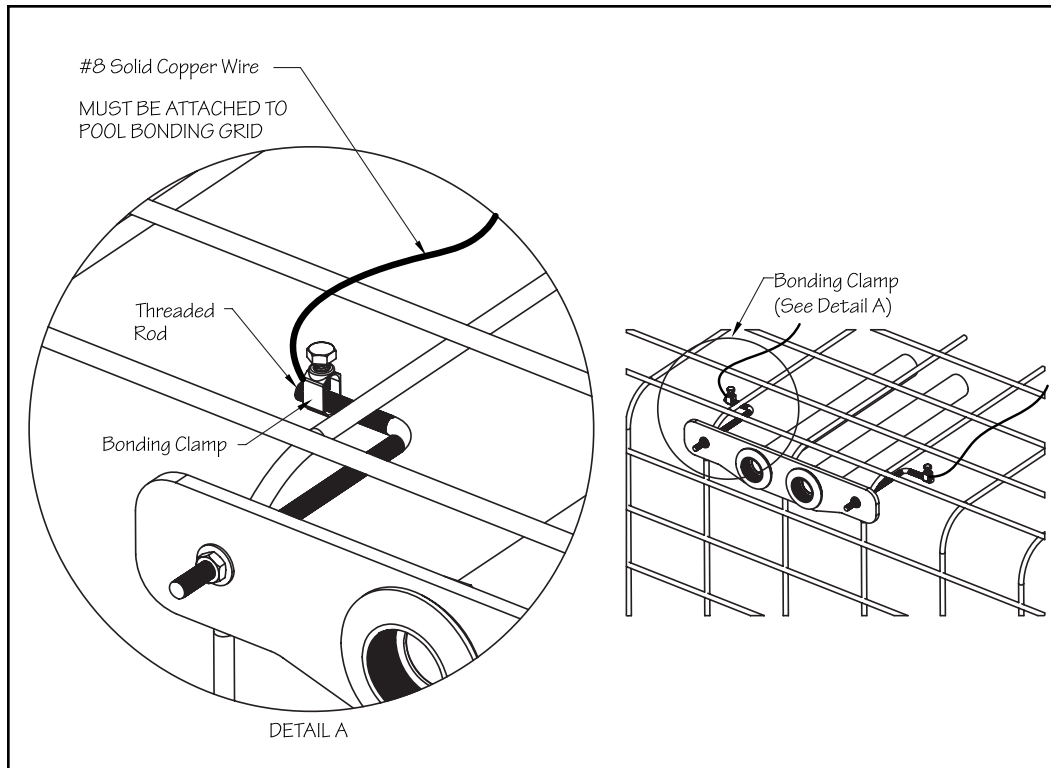

Fig. 4.4
**The threaded rods must be tied into the pools bonding grid.** Secure a bonding clamp to each threaded rod. Attach a #8 solid copper wire to each bonding clamp. These wires **MUST** be attached to a bonding connection that's incorporated into the pools bonding grid. In most cases this will be a connection at the rebar. Verify **ALL** bonding connections are tight before shooting gunite (Fig 4.4).